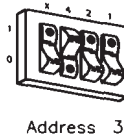

Figure 6-17.
- If there are *two* other disk or tape drives (besides this HP 9121/22) already connected to the interface, set the “ADDRESS” switches to 3 as shown in Figure 6-17, unless address 3 has already been used. Refer to the manual that came with your disk drive for additional switch settings.